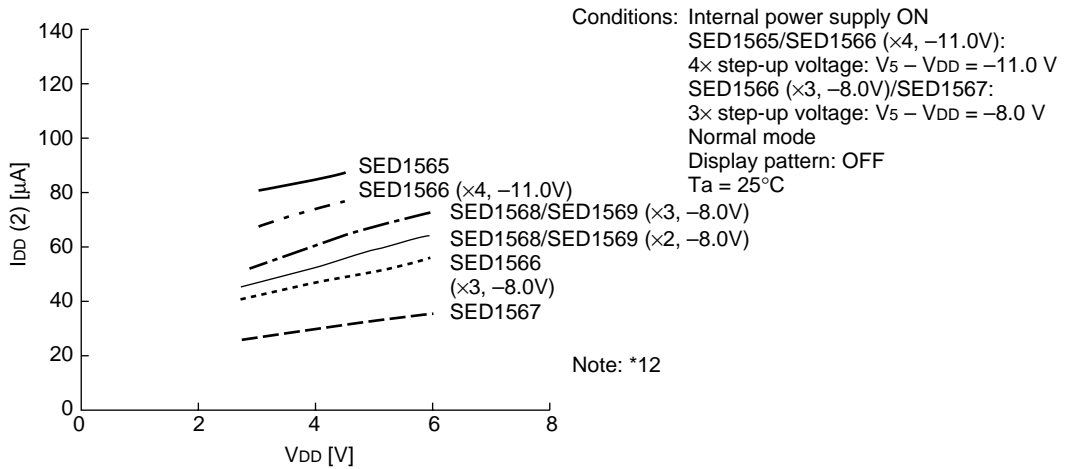

Figure 33
- *2 The operating voltage range for the VDD system and the V5 system is as shown in Figure 33. This applies when the external power supply is being used.
- *3 The A0, D0 to D5, D6 (SCL), D7 (SI), RD (E), WR (R/W), CS1, CS2, CLS, CL, FR, M/S, C86, P/S, DOF, RES, IRS, and HPM terminals.
- *5 The A0, RD (E), WR (R/W), CS1, CS2, CLS, M/S, C86, P/S, RES, IRS, and HPM terminals.
- *6 Applies when the D0 to D5, D6 (SCL), D7 (SI), CL, FR, and DOF terminals are in a high impedance state.
- *7 These are the resistance values for when a 0.1 V voltage is applied between the output terminal SEGn or COMn and the various power supply terminals (V1, V2, V3, and V4). These are specified for the operating voltage (3) range.